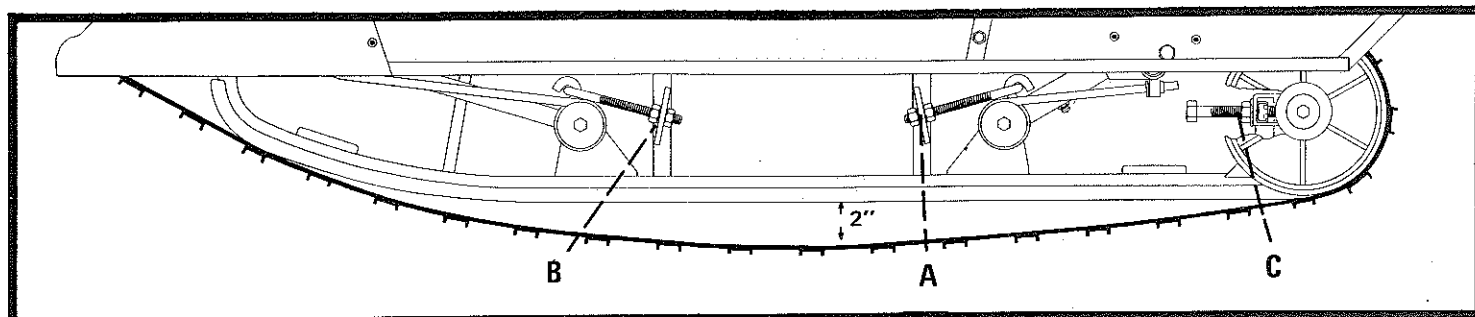

Fig. 13
Adjustment for a softer or firmer ride can be easily made by use of the individual adjustment bolts located on each side of the suspension frame. The rear adjustment (Fig. 13 (A)) should be made for the weight of the operator to eliminate "bottoming" on all but the most severe bumps. The front adjustment (Fig. 13 (B)) should be made for snow conditions for your area. For hard packed conditions, the adjustment should be tightened to maintain maximum track surface on the snow. For soft snow, the adjustment should be loosened to allow the machine to stay on top of the snow.
A check of the track tension can be made by supporting the rear of the machine off the ground and grasping the track midway between front and rear of suspension frame and pulling downward. There should be 2" between the track and the slide rail. If adjustment is necessary, adjust track tension bolts (Fig. 13 (C)) equally to maintain proper track alignment.